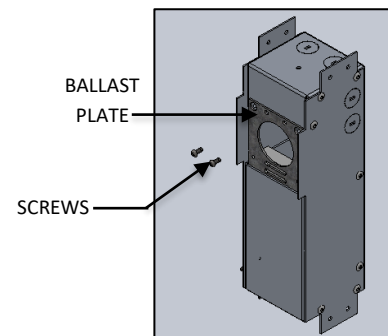

FIG. 12 - DRIVER PLATE DISASSEMBLE
3. Remove the SCREWS securing DRIVER PLATE, and slide DRIVER PLATE out of J-BOX as shown in FIG. 12.